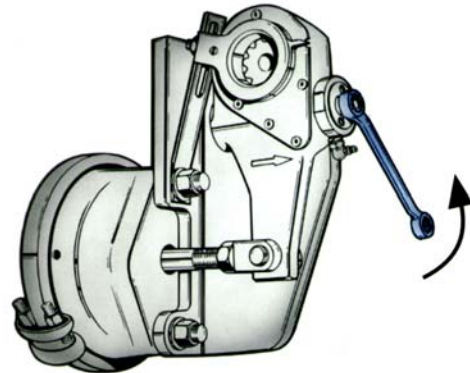

Figure 24 – Adjusting Hex
14. Then back off the adjuster by turning the adjusting hex counter-clockwise 1/2 of a turn (See Figure 24).